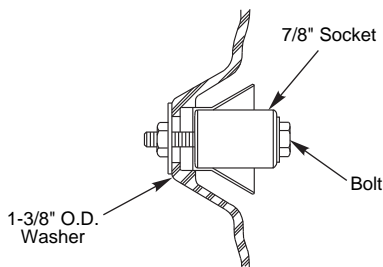

Figure 8B
- C. Pull inset into cavity (see Figure 8B)